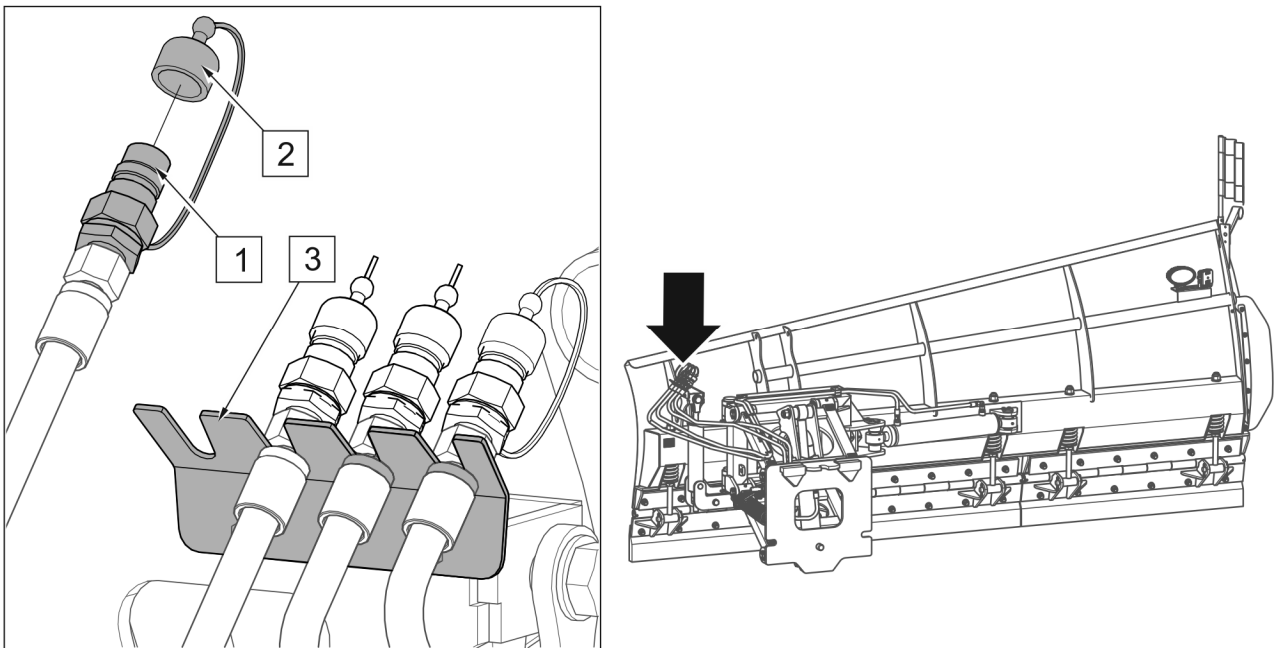

FIG. 4.20 **Protection of hydraulic quick couplers**
- 4) Drive the cart away from the carrier vehicle for a distance of about 30 cm, immobilize the cart with the brake in support wheels. Lower the snowplough linkage frame to the lower position. Disconnect hydraulic line plugs and electric lead from the carrier vehicle. Secure hydraulic line plugs with stoppers and place them in bracket on the machine frame (FIG. 4.20).